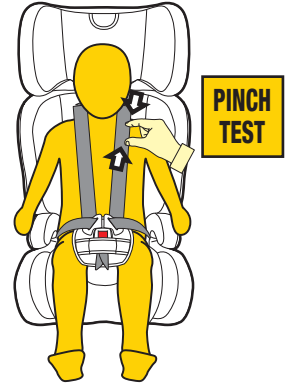

Figure 6
**Step 9:** Check the harness tightness by the **PINCH TEST**, this is achieved by pinching the harness webbing at the shoulders (refer Figure 6)